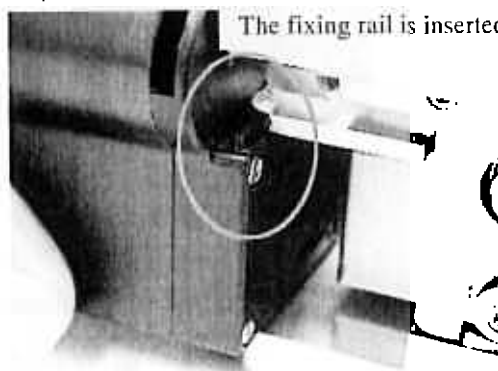

Fig.23
- (iii)Continue to slide the fiber collector backward until the fixing rail is completely removed (refer to Fig.23).